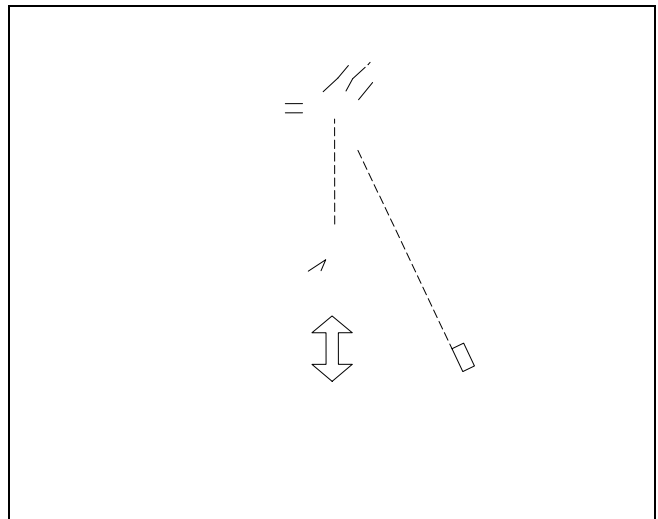

Figure 13
- To remove casement screen, grasp bottom flange or finger pull of the screen. Lift upward and draw screen towards you, removing screen from channel. See figure 13.
- To install casement screen, place screen into the upper screen channel. Lift upward and push screen tight against frame. Release bottom flange to seat screen into place. See figure 13.